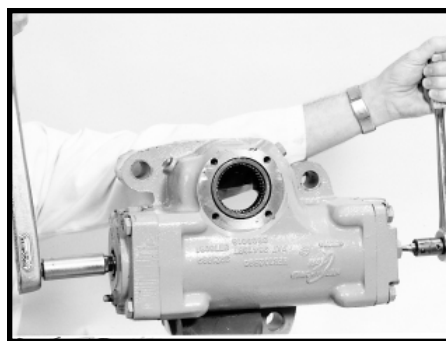

Figure 150
44. With the rack piston (29) in its center position, torque the worm shaft/input shaft adjusting screw (38) using a 5/16 inch Allen wrench socket into solid height (15 to 20 ft. lbs. [20.3 to 27.1 N m]). Then loosen the adjusting screw 1/4 to 1/2 turn and note torque required to rotate worm shaft/ input shaft (16) through 90° each side of center, using an 12 point socket that will fit input shaft serrations and an appropriate torque wrench. SEE FIGURE 150. Loosen adjusting screw if noted input shaft torque exceeds 15 in. lbs. (17 N m). Return rack piston to center position.